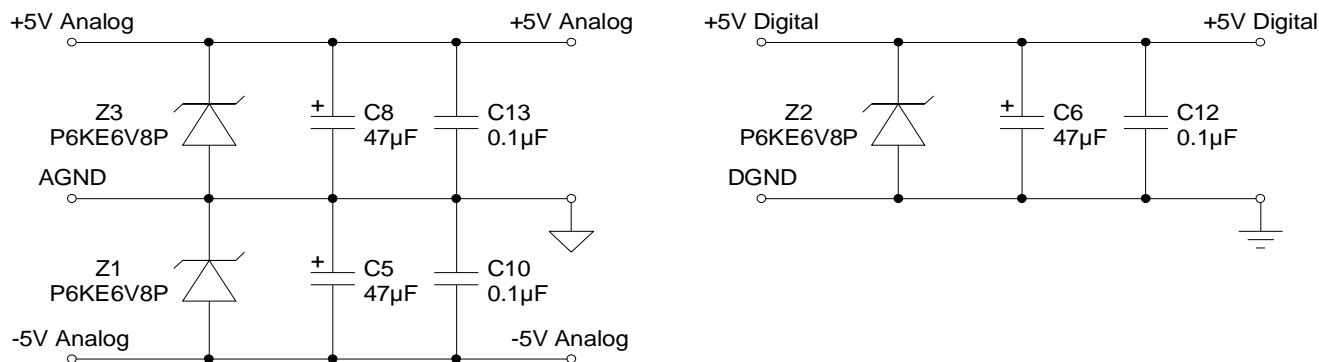

Figure 4. Power Supplies
- Figure 4. Power Supplies 8
Figure 4 illustrates the power supply connections to the evaluation board. The +5 V Analog supplies the analog section of the evaluation board, the LT1019 and the ADC. The -5 V Analog supplies the negative bias voltage circuitry. The +5 V Digital supplies a separate five volts to the digital section of the evaluation board, the 80C51, the reset circuitry, and the RS-232 interface circuitry.